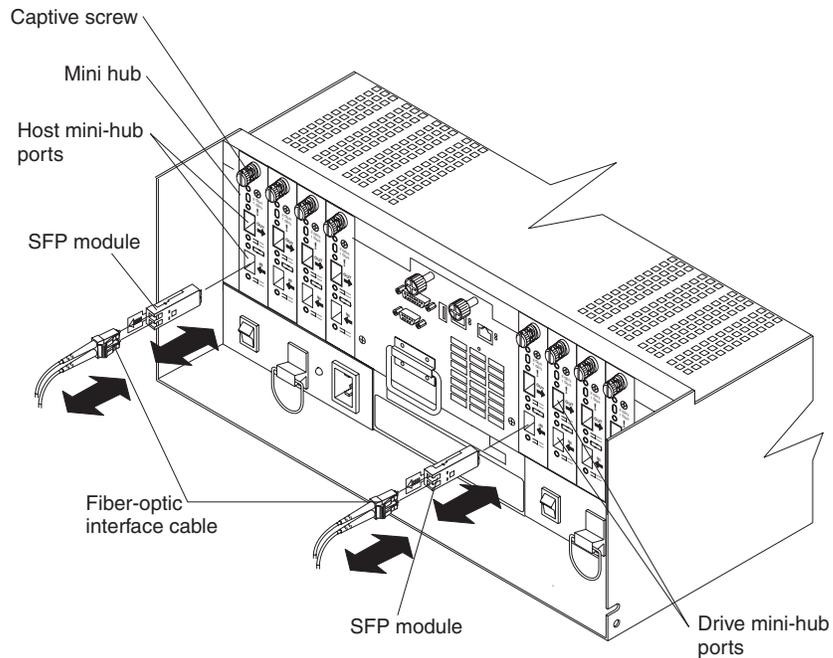

Figure 51. Removing the fiber-optic cable from the SFP module
1. On the mini-hub that has failed, remove the fiber-optic cables from the SFP modules, as shown in Figure 51 on page 64.